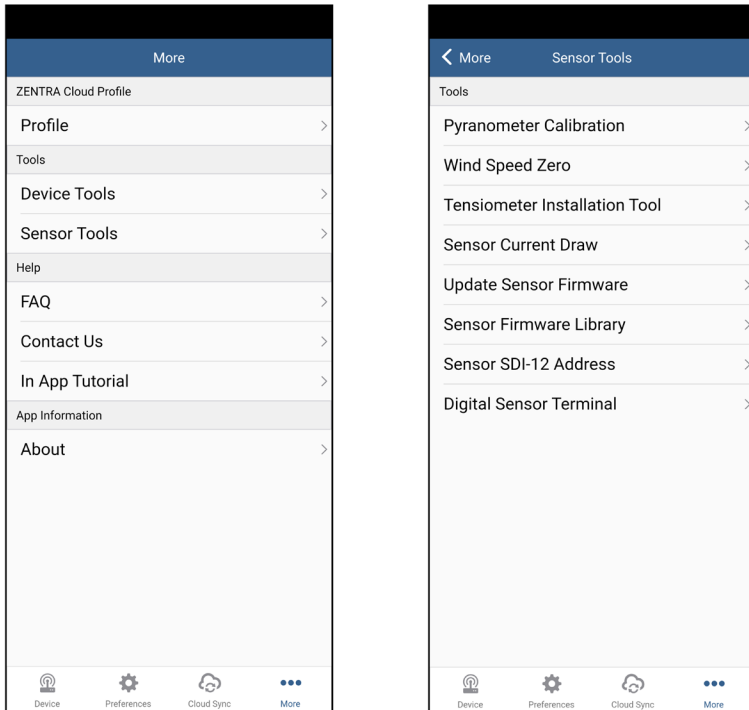

Figure 9 Views of More menu and Sensor Tools menu
- From the More menu (Figure 9) select Sensor Tools under the Tools category.
- On the Sensor Tools menu (Figure 9) select the Tensiometer Installation Tool option.